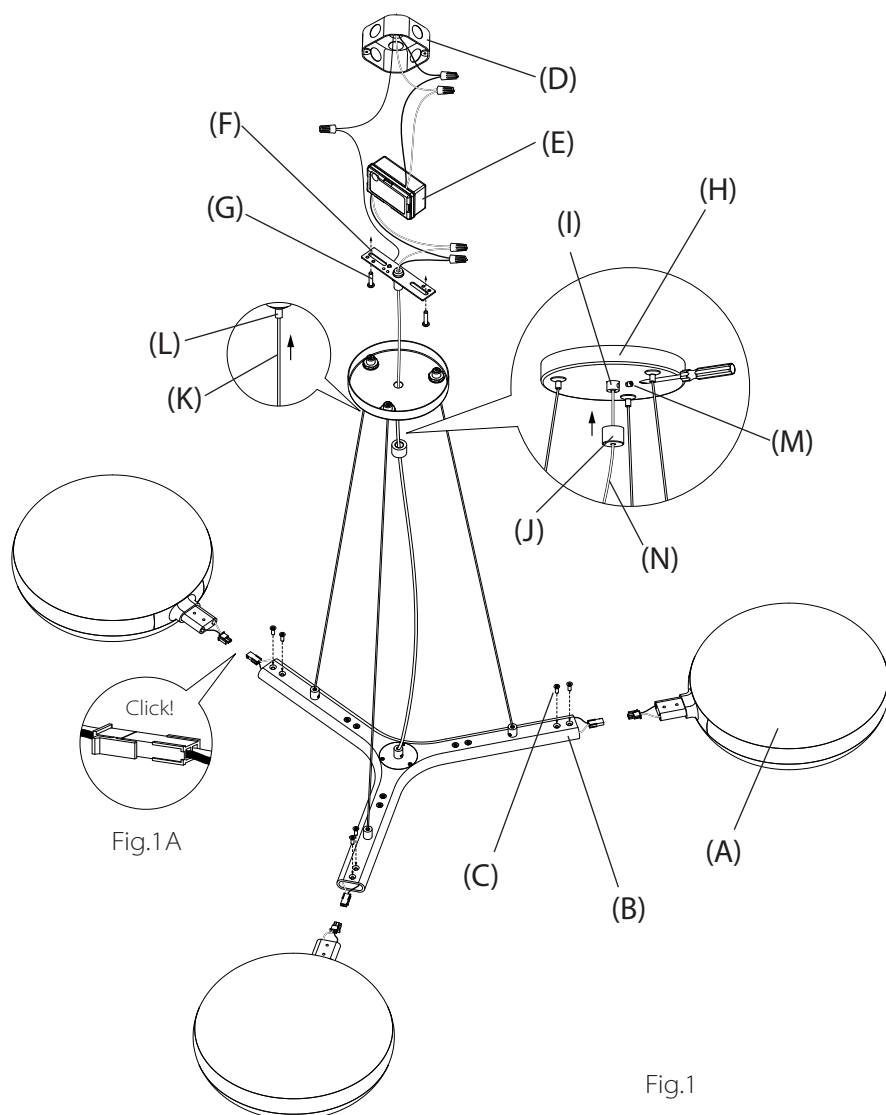

Fig.1
1. Shut off power to the outlet box (D).
2. Assemble the pendant body (Fig. 1):
- a. Connect the electrical plugs from one End Luminaire (A) to the plugs from one Connecting Arm (B) of the fixture body.
- b. Insert End Luminaire and Center Luminaire to the Connecting Arm, and secure with two screws (C) on each side.
3. Make appropriate electrical connections to the power supply (E) using wire nuts:
- c. Connect outlet box ground wire (green or uncoated) to the mounting plate (M) using the green screw.
4. Place the power supply and any loose cable or cord inside the outlet box (D).
1. Make a 1" slice along the length of the cord's outer jacket (Fig. 1).
2. Carefully strip the outer jacket of the cord and keep the outer braided conductors intact (Fig. 1).